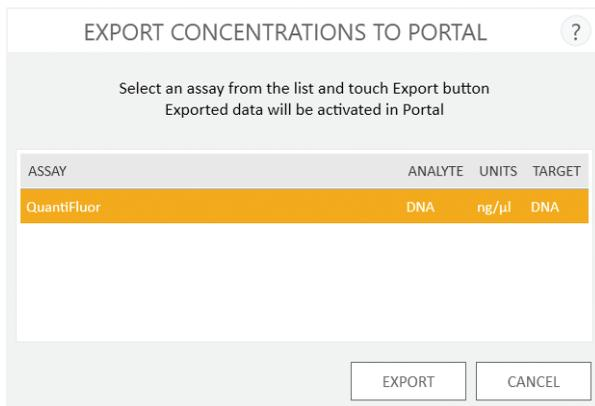

Figure 75. 'Portal Data Export' screen. Select the concentration assay into which concentration data should be imported and press the Export button.
2. The 'Portal Data Export' screen (Figure 75) lists all the concentration assays into which concentration data can be imported. Concentration assays are described in the *Portal Access Technical Manual #TM549*. Only assays which have a single concentration target are listed on the 'Portal Data Export' screen. Select the concentration assay into which concentration data should be imported.